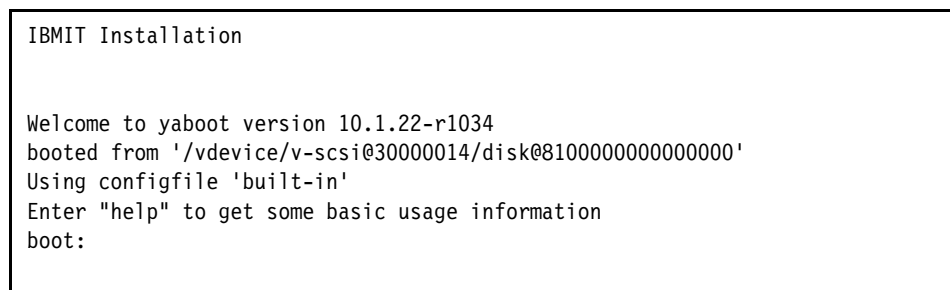

Figure 12-23 First reboot
29. Monitor the installation at the console, as shown in Figure 12-23.